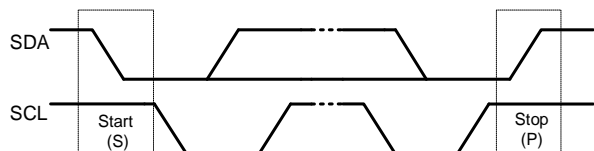

Figure 12: Start and Stop Commands
All transactions begin with a start (S) command and are terminated by a stop (P) command. Start and stop commands are always generated by the master. A start command is defined as a high-to-low transition on the SDA while the SCL is high. A stop command is defined as a low-to-high transition on the SDA while the SCL is high (see Figure 12).